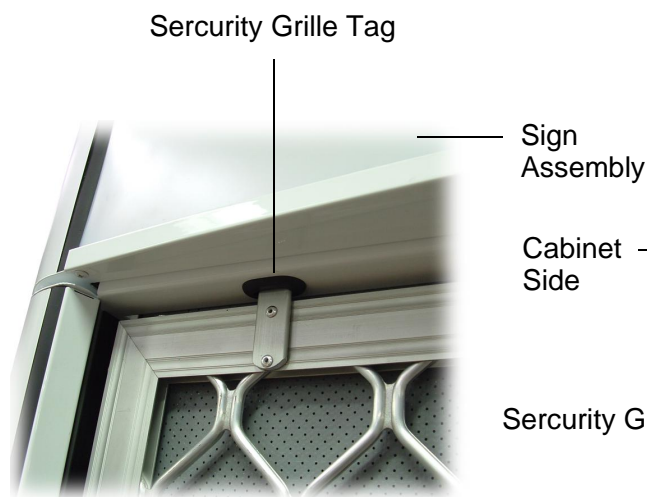

Figure 8: Security Grille Tag
2. Manoeuvre the security grille into position so as both the tags at the top of the grille locate into the slots under the sign assembly (see Figure 8 below).